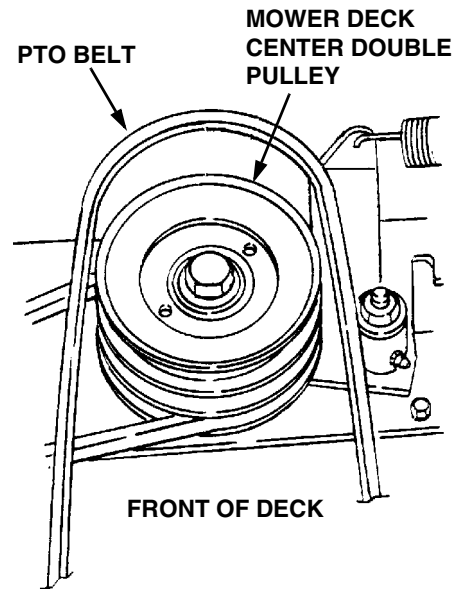
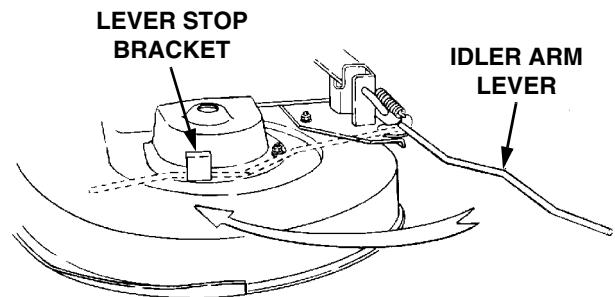

Figure 36
Figure 37
3. Remove the rearward end of the PTO belt from the upper pulley of the deck center double-pulley (Refer to Figure 36). Engage the deck idler arm lever back into its stop bracket (Refer to Figure 37).